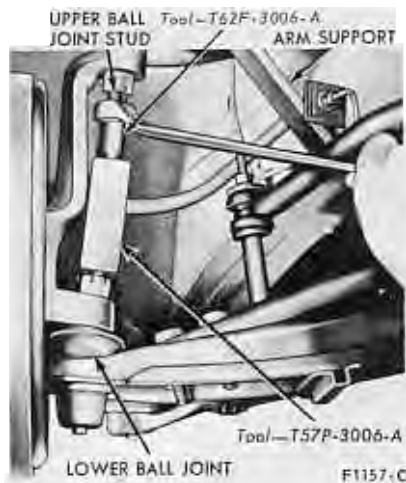

FIG. 5—Loosening Ball Joint
4. Position the ball joint remover tool as shown in Fig. 5. The tool should seat firmly against the ends of both studs, and not against the lower stud nut. It may be necessary to remove the lower ball joint cotter pin if it prevents the tool from seating on the lower stud.